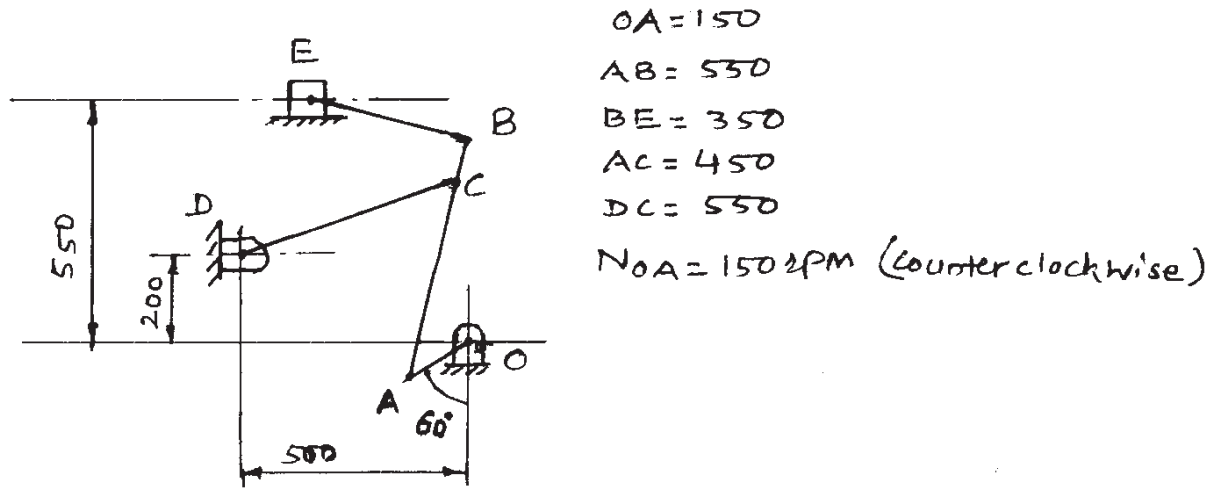

Fig. 2
b) Draw the velocity and acceleration diagram for the mechanism shown in Fig. 2. Determine acceleration of ram E. [12]